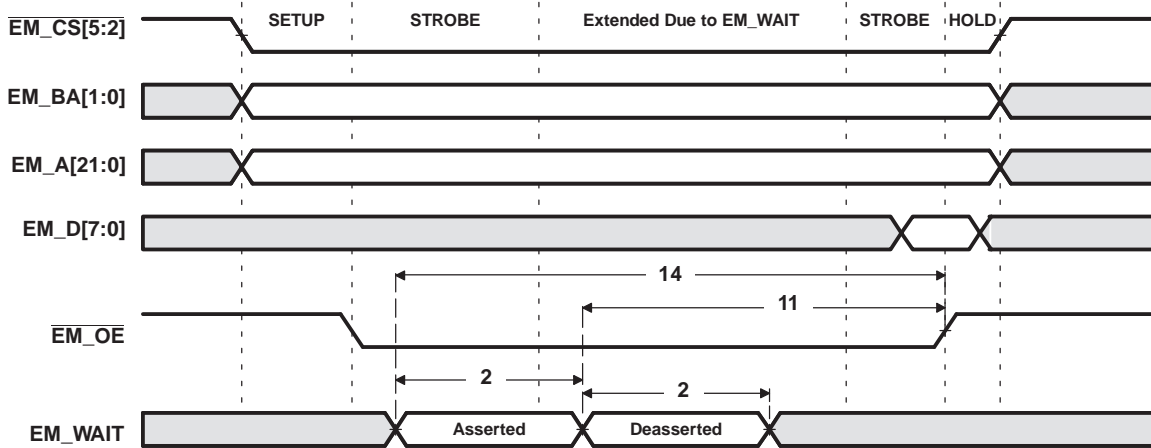
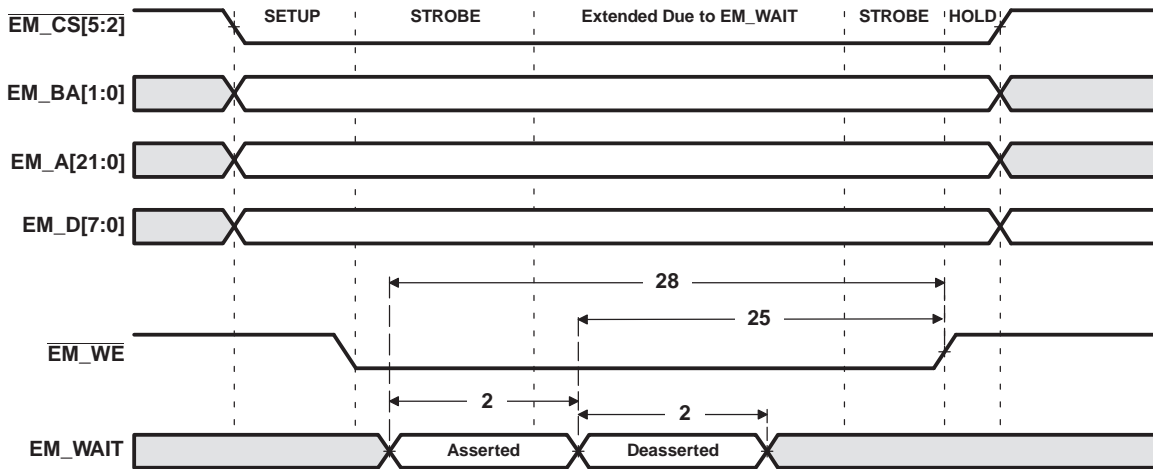

Figure 6-16. $\overline{\text{EM_WAIT}}$ Read Timing Requirements
Figure 6-17. EM_WAIT Write Timing Requirements
(1) E = SYSCLK3 period in ns for EMIFA. For example, when running the DSP CPU at 300 MHz, use E = 20 ns.
(2) Setup before end of STROBE phase (if no extended wait states are inserted) by which EM_WAIT must be asserted to add extended wait states. Figure 6-16 and Figure 6-17 describe EMIF transactions that include extended wait states inserted during the STROBE phase. However, cycles inserted as part of this extended wait period should not be counted; the 4E requirement is to the start of where the HOLD phase would begin if there were no extended wait cycles.